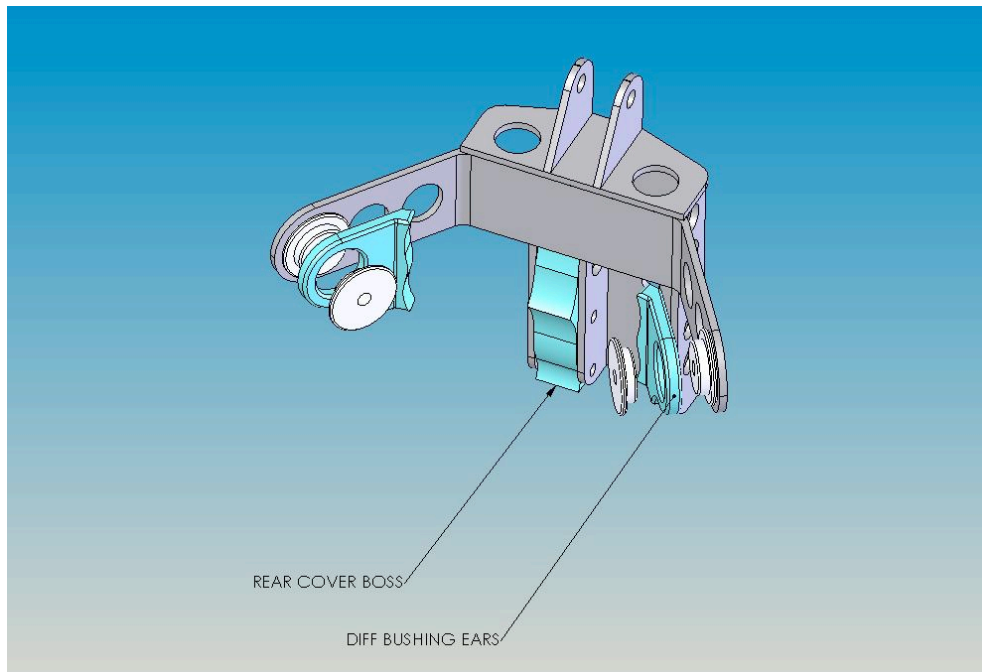

Figure 1.
- 6) Remove the stock upper control arm bushings from the third member. This is best done with an air hammer and chisel but can be completed with a ball peen hammer. Install the supplied third member bracket using the supplied aluminum bushings and hardware. See figure 1.